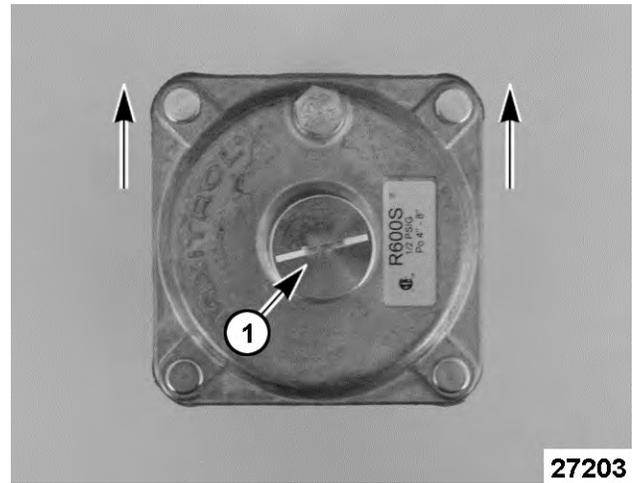

Fig. 29
- A. Remove the regulator closing nut [1] Fig. 29.